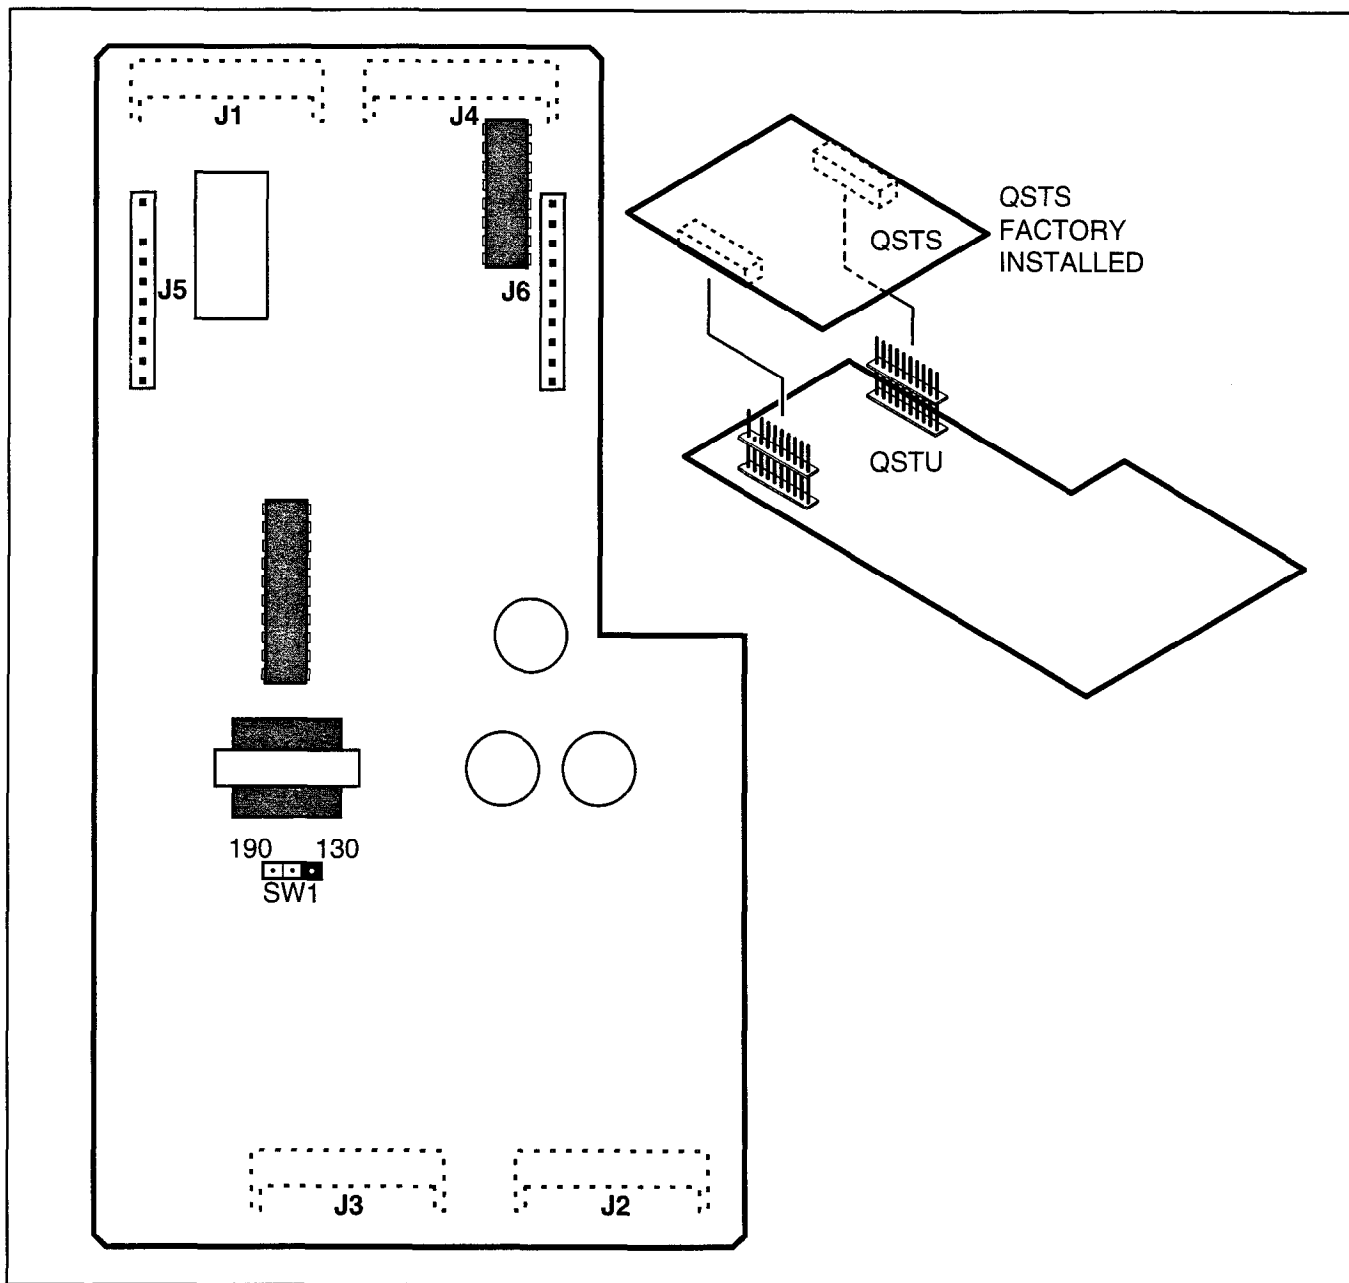

FIGURE 4-10
8.02 The QSTU is shown in Figure 4-10. Note that the QSTS PCB is factory installed on the QSTU.
8.11 The QSTU only has to be configured for the ring generator voltage level, nothing else. Before installing the QSTU in the KSU, set the **SW1** ring generator to 130V P-P or 190V P-P (Figure 4-10). Most standard telephones and two-wire devices require 190; however, some devices may experience ring-trip at 190, and should be set at 130.